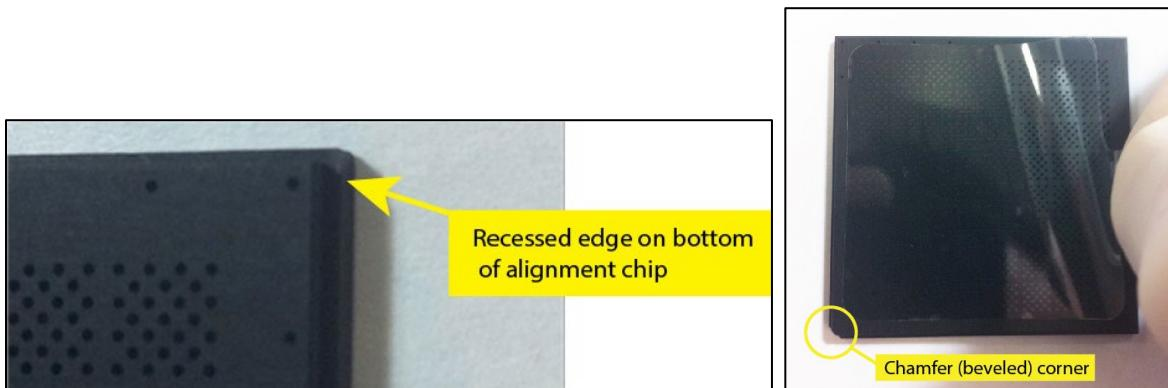

Figure 51. Sealing the alignment chip with alignment chip film.
- b. With the bottom of the alignment chip facing up and the beveled corner in the lower left as you face the chip, apply the film to the back of the chip so that the tab is on the right side (Figure 51).